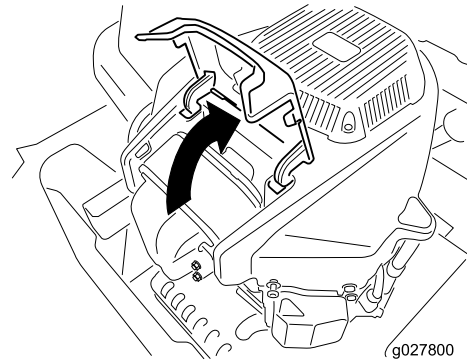
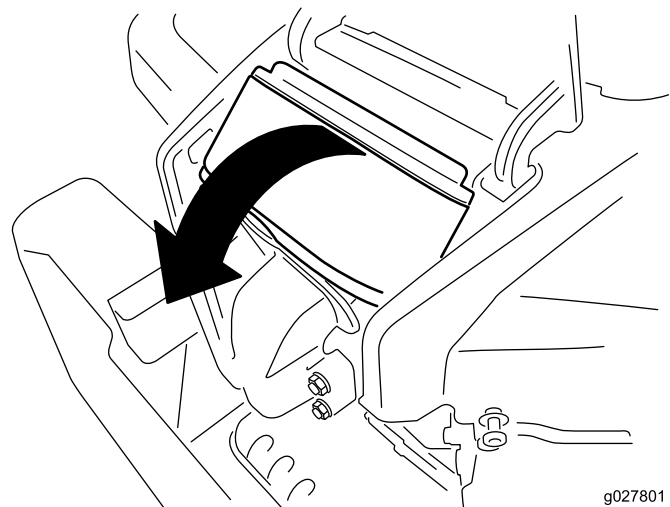

Figure 28
Figure 29
3. Lift the cover and rotate the air-cleaner assembly out of the engine (see Figure 28 and Figure 29).